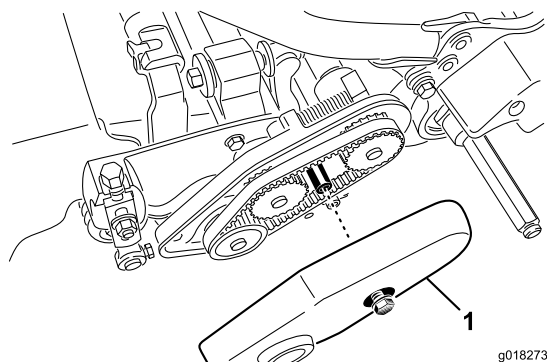

Figure 41
2. Loosen the flange bolt securing the belt cover and remove the belt cover to expose the belt (Figure 41).